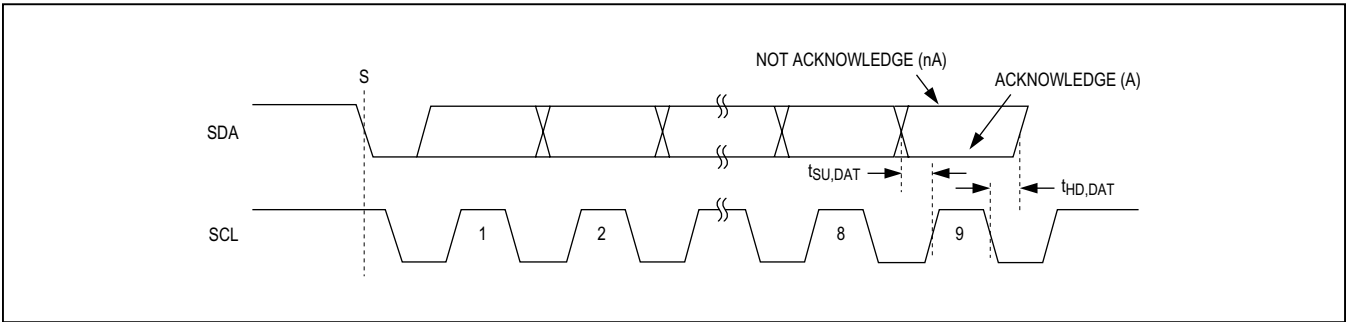

Figure 7. I2C Acknowledge (A) and Not-Acknowledge (nA)
Both the I²C bus master and the MAX8973A (slave) generate acknowledge bits when receiving data. The acknowledge bit is the last bit of each nine-bit data packet. To generate an acknowledge (A), the receiving device must pull SDA low before the rising edge of the acknowledge-related clock pulse (ninth pulse) and keep it low during the high period of the clock pulse (Figure 7).